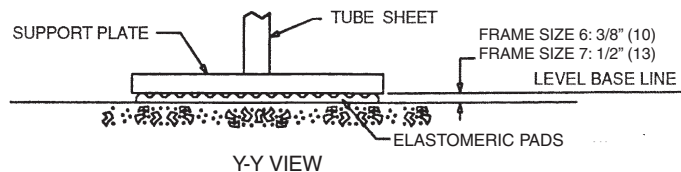

Fig. 33 — Standard Isolation
1. Y-Y dimension refers to standard soleplate. See Fig. 33.